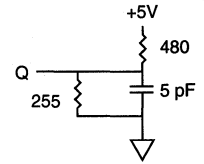

Fig. 2 OUTPUT LOAD EQUIVALENT
- Output loading is specified with CL = 5pF as in Fig. 2. Transition is measured $\pm 500\text{mV}$ from steady state voltage.